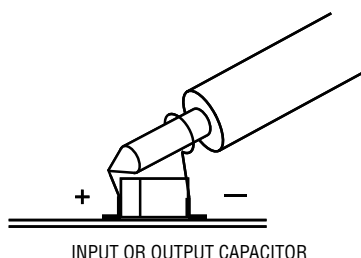

Figure 2. Proper Scope Probe Placement for Measuring Input/Output Ripple
**NOTE:** When measuring the input or output voltage ripples, care must be taken to avoid a long ground lead on the oscilloscope probe. Measure the input or output voltage ripple by touching the probe tip directly across the  $V_{IN}$  and GND, or  $V_{OUT}^+$  and  $V_{OUT}^-$  terminals. See Figure 2 for proper scope probe technique.